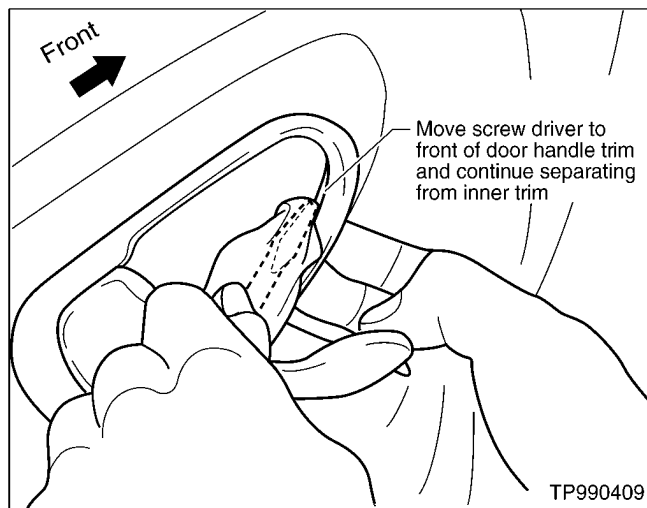

Figure 10
- C. Move the screw driver to the front part of the door handle trim. Continue separating the trim pieces (see Figure 10).